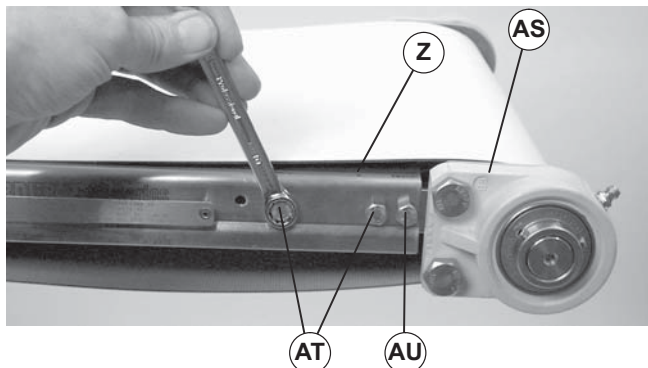
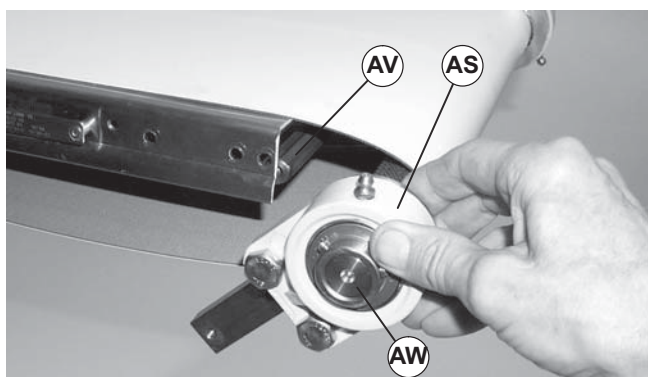
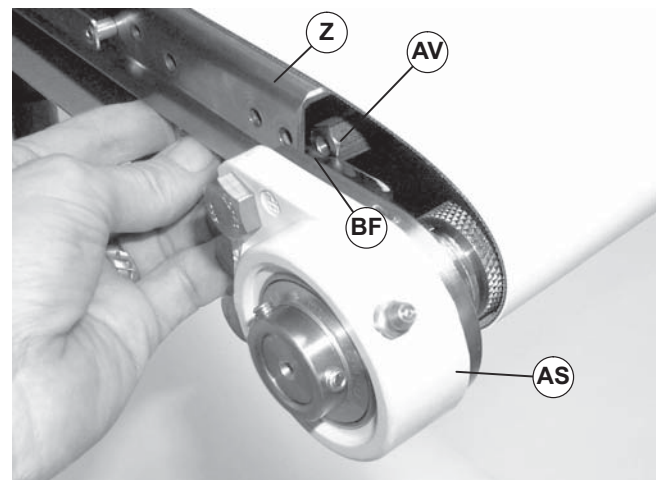

Figure 22
Figure 23
Figure 31
8. Remove three hex head screws (Figure 22, item AT and AU) from bearing and head plate assembly (AS), cross support post (Figure 23, item AV) and conveyor (Z).
9. Rotate bearing and head plate assembly (Figure 23, item AS) down and then off of cross support post (AV) and drive spindle (AW).
4. Rotate bearing and head plate assembly (Figure 31, item AS) up between inside of conveyor (Z) and cross support post (AV). Make sure cross support post engages slot (BF) in head plate.
5. Install three hex head screws (Figure 22, item AT and AU) to secure bearing and head plate assembly (Figure 31, item AS) to cross support post (AV) and conveyor (Z).